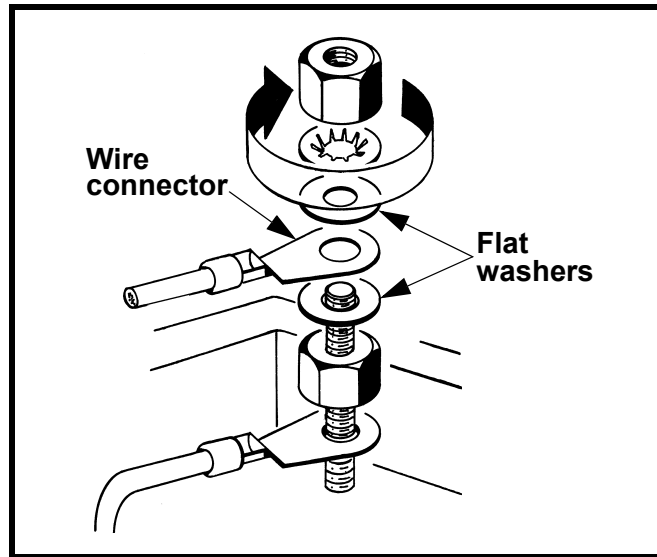

Figure 9. Installing Wire Connector
4. Install wire connector between the two flat washers. See Figure 9.